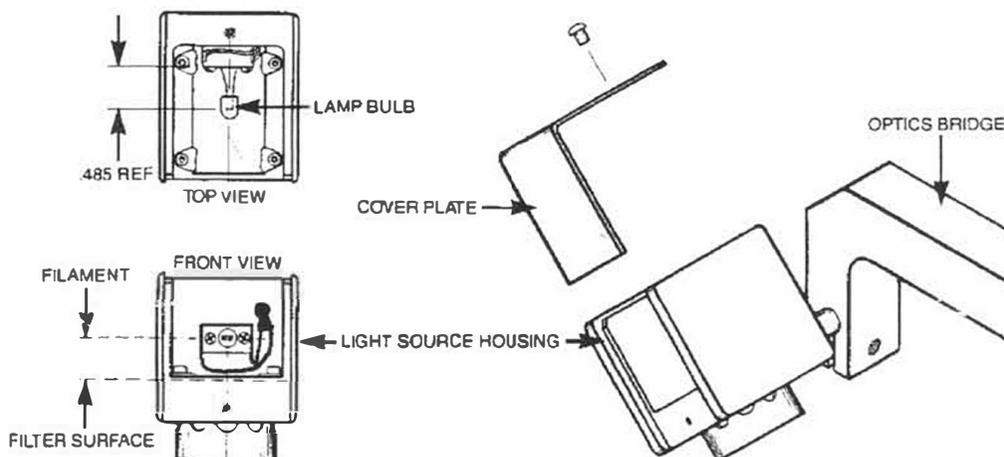

**Figure 10-11. Low Inertia Sensor Head**
2. The "Quick Release" stylus mechanism enables fast and easy stylus replacement. To remove the stylus, simply pull down on the stylus shaft (see Figure 10-11). The stylus is held in place magnetically.